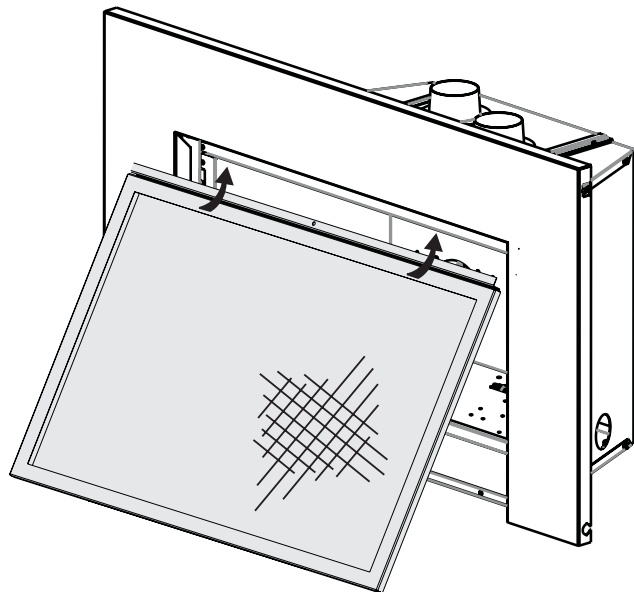

Figure 21
1. Grasp and hold the barrier screen assembly at an angle as shown in **Figure 21**. Insert the top of the barrier between the surround and fireplace insert top frame.